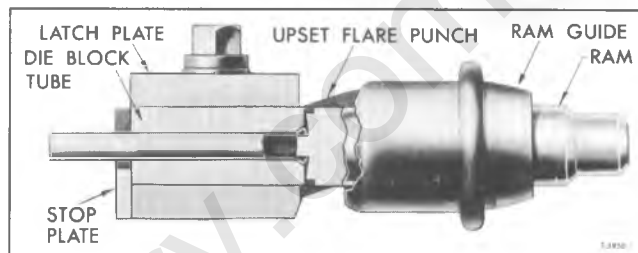

Figure 7—Flaring Operation (First Flare)
6. Remove punch and ram. Reverse punch and place back in tool body. Install ram and tap lightly until face of punch contacts face of die blocks to complete first flare operation (fig. 7).